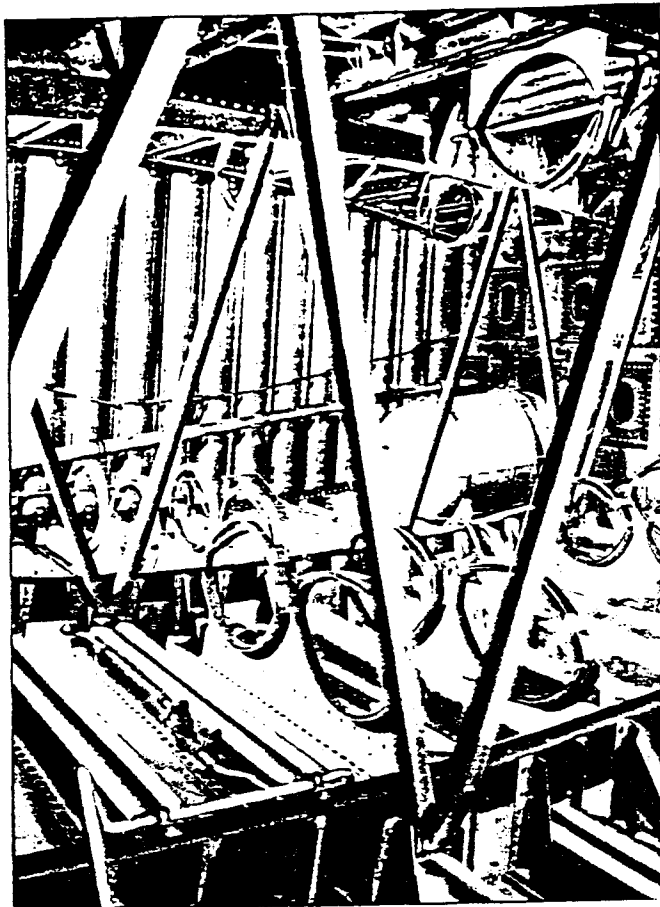

Figure 2. Oxygen Bottle Installed
b. OXYGEN CYLINDERS. (See figure 2.)
(1) DESCRIPTION. The type G-1 oxygen cylinder, with an internal volume of 2100 cubic inches, is used in the oxygen system.